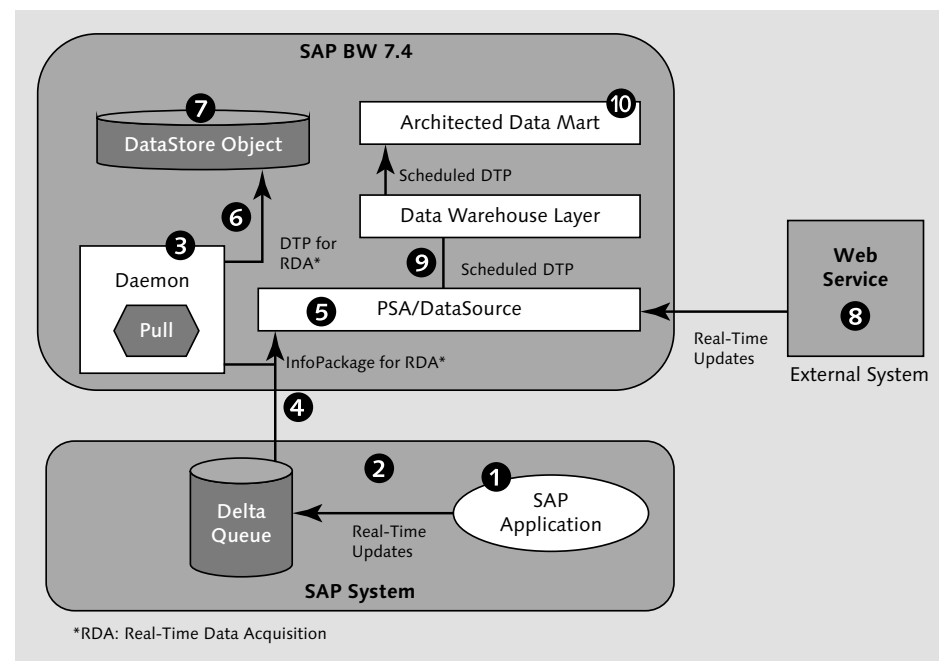

Figure 6.60 RDA Architecture
As shown in Figure 6.60, there are two ways to get data in real time: via the SAP source system and via external systems.
When data is accessed from the SAP source system, the SAP application (❶ of Figure 6.60) updates the data in the delta queue ❷ in real time. The daemon ❸ in SAP BW starts the InfoPackage for RDA ❹ at a defined interval, which can be